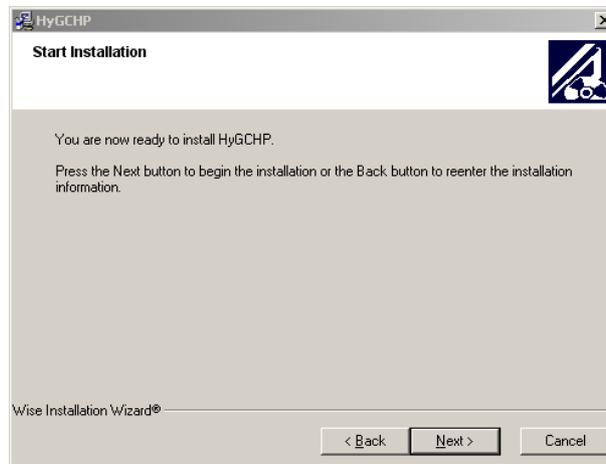

Figure 3. Start Installation Screen
- 4.) Click **Next** to reach the *Start Installation* screen (Figure 3).